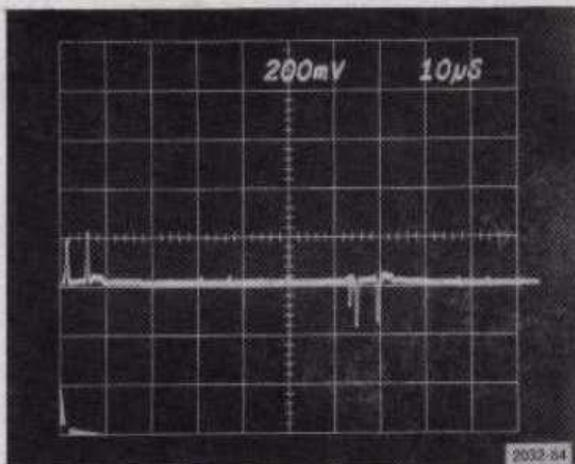
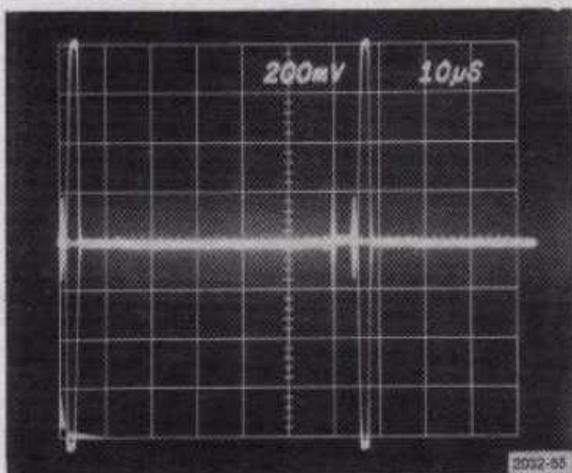

Fig. 5-13. 1420 — Differential Phase setup.
Fig. 5-14. 1421, 1422 — Differential Phase setup.
- b. Rotate the PHASE control for minimum amplitude of the demodulated subcarrier. See Fig. 5-13 or Fig. 5-14.